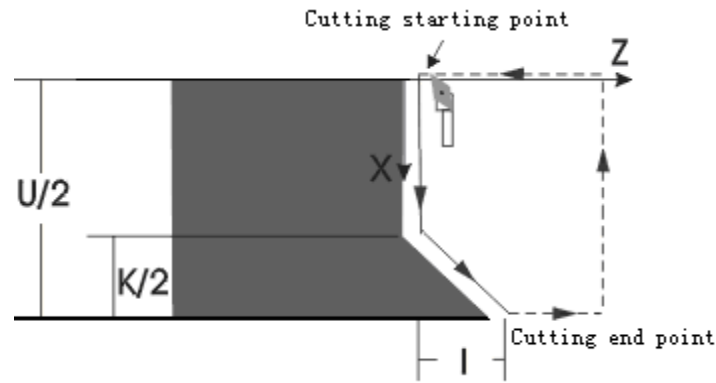

Fig. 4-27
4) ,G92 end face thread: as Fig 4-27